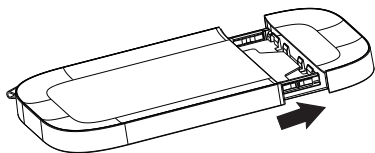

Figure 1
2. Push the upper cover of paper cassette as Figure 1 shown below, and then flip it to the back as Figure 2 shown below.